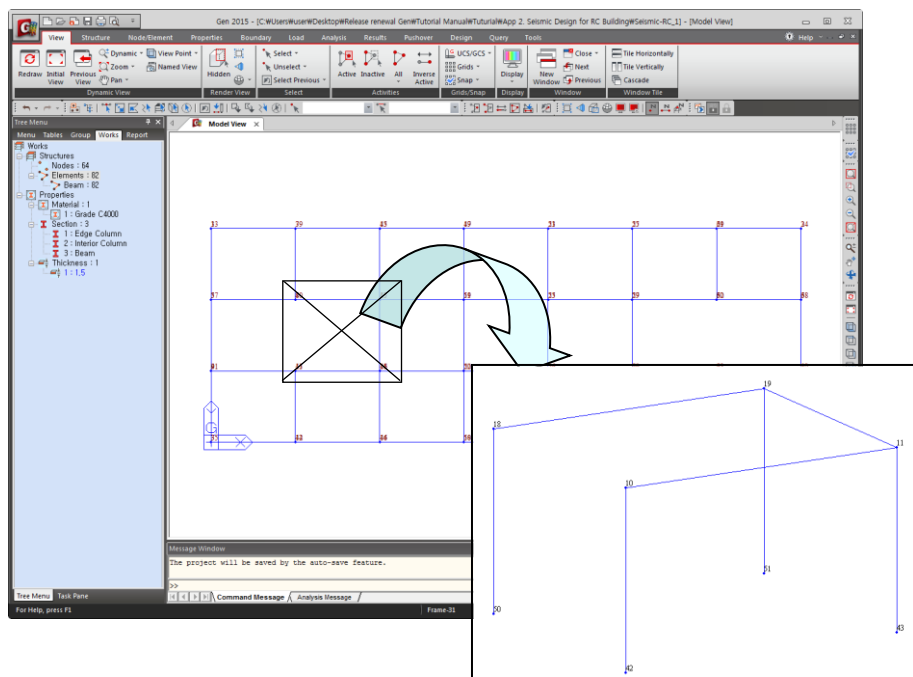

Figure 10 : Location of Wall Element
-  Select Window (Refer Figure 10)